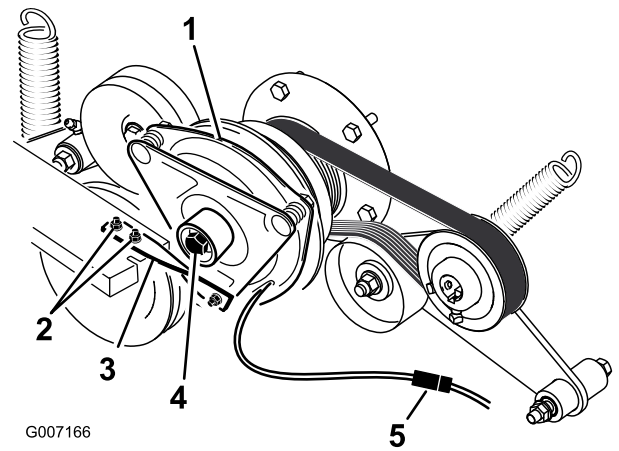

Figure 69
6. Unplug the electric connection for the clutch (Figure 69).
7. Remove the 2 bolts holding the rubber clutch strap to the mower frame (Figure 69).
8. Remove the center bolt holding the clutch to the engine shaft and remove the clutch and key (Figure 69).
15. While holding the crank shaft at the back of the machine, install the center bolt and torque it to 68 N·m (50 ft·lb) (Figure 69).
18. Plug in the electric connection for the clutch (Figure 69).